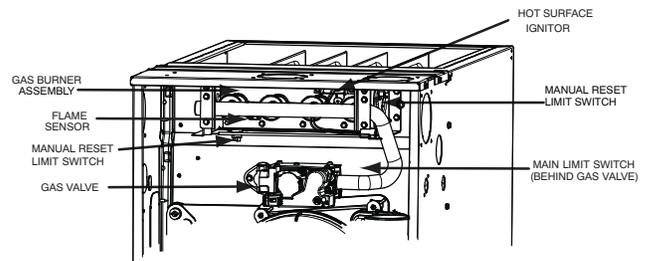
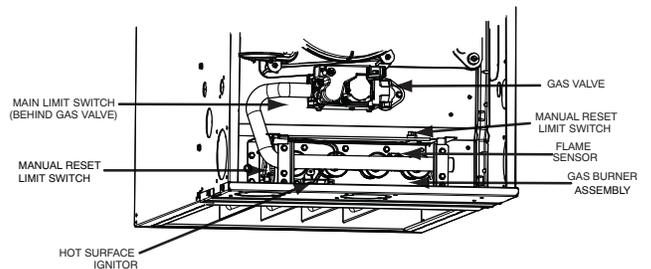

Fig. 20 – Gas Burner Assembly (Upflow)
Fig. 21 – Gas Burner Assembly (Downflow)
- a. Remove filter cabinet door (see Fig. 20 and Fig. 21).